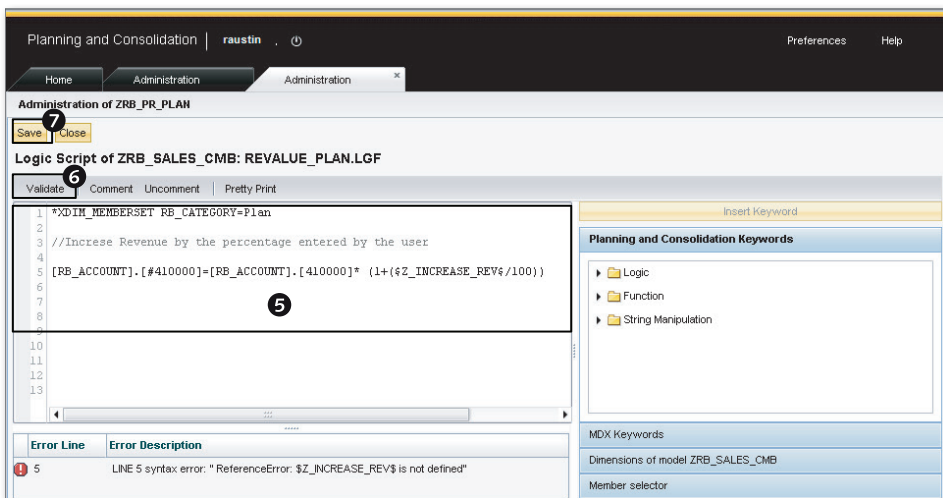

Figure 6.6 Creating Logic Script to Revalue Plan Data—Part C
- Next, you can enter the logic script for revaluing the plan data. Enter the code as shown in Figure 6.6, ⑤. The script is used to prompt the user to enter a percentage for revaluing revenue, and the increase or decrease in revenue is posted back to the revenue account (410000); it is calculated by multiplying the percentage increase/decrease (entered by the user) to the revenue amount. After entering the code, click on VALIDATE, and then click on SAVE (Figure 6.6, ⑥ and ⑦). You will get an error message when you validate the logic script stating that there is an unreferenced variable `$Z_INCREASE_REV$`. This error message is okay because this variable will be used in the Data Manager package prompt.